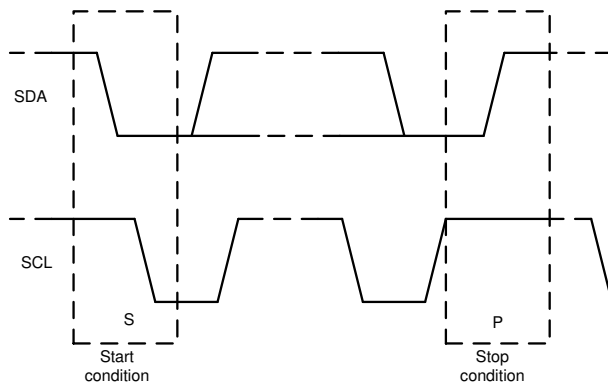

图 7-4. Start and Stop Conditions
1. The controller initiates data transfer by generating a start condition. 图 7-4 shows that the start condition is when a high-to-low transition occurs on the SDA line while SCL is high. All I²C-compatible devices recognize a start condition.
4. 图 7-4 shows that to signal the end of the data transfer, the controller generates a stop condition by pulling the SDA line from low-to-high while the SCL line is high. This action releases the bus and stops the communication link with the addressed target. All I²C-compatible devices recognize the stop condition. Upon receipt of a stop condition, the bus is released, and all target devices then wait for a start condition followed by a matching address.